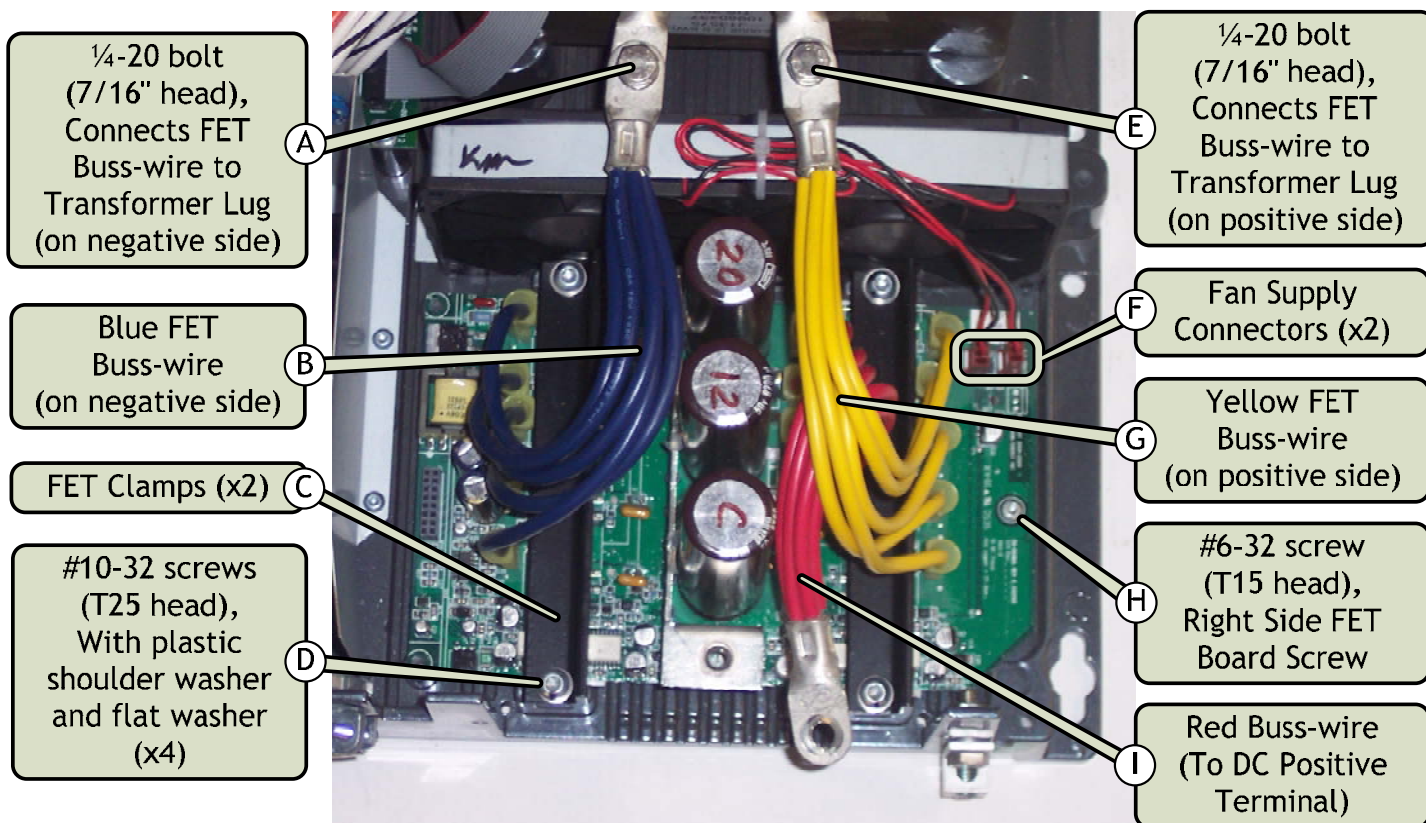

Figure 7, Small FET Board Section
3.1.1 After removing the inverter's top cover, DC terminal plate and control board; locate and familiarize yourself with the components in the small FET board section; see figure 7.
3.1.2 Remove the two ¼-20 bolts holding the yellow and blue FET buss-wires to the transformer lugs (see figure 7, items A and E). Use a 7/16" wrench to hold the nut while each bolt is being unscrewed.
3.1.3 Locate and disconnect the two fan supply connectors (figure 7, item F).
3.1.4 Locate and remove the #6-32 screw (T15 head) on the right side of the FET board (figure 7, item H).
3.1.5 Locate and remove the four #10-32 screws (T25 head) holding the FET clamps (figure 7, item D). These four screws with flat washers and shoulder bushings will not be reused; place them aside to be returned if for warranty consideration; otherwise they can be discarded.
3.1.6 Remove the two FET clamps (figure 7, item C). These FET clamps and any loose material will not be reused; place them aside to be returned if for warranty consideration; otherwise they can be discarded.
3.2.3 While holding the new FET board in place on the insulator pads, replace the #6-32 screw on the right side of the FET board (figure 7, item H). This will help hold the FET board and the insulator pads in-place until the FET clamps are installed.
3.2.7 Reconnect the two 1/4-20 bolts holding the yellow and blue FET buss-wires to the transformer lugs (see figure 7, items A and E) and torque to 130 in. lbs. Use a 7/16" wrench to hold the nuts while the bolts are tightened.
Caution: Ensure the blue buss-wire is connected to the transformer lug on the negative side and the yellow buss-wire is connected to the transformer lug on the positive side or damage to the inverter may occur, see figure 7 for reference.